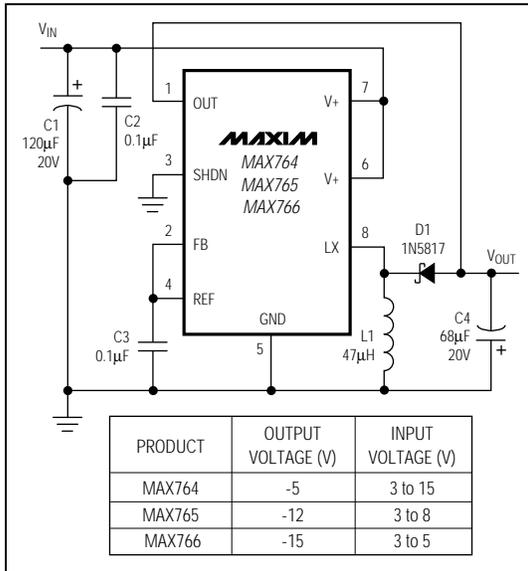

Figure 2. Fixed Output Voltage Operation
**Note 2:** Circuit of Figure 2.
CIRCUIT OF FIGURE 2, V+ = 5V, ILOAD = 100mA, VOUT = -5V
CIRCUIT OF FIGURE 2, V+ = 5V, VOUT = -5V
CIRCUIT OF FIGURE 2, VOUT = -5V, ILOAD = 100mA
CIRCUIT OF FIGURE 2, V+ = 5V, VOUT = -5V, ILOAD = 140mA
CIRCUIT OF FIGURE 2, V+ = 5V, VOUT = -5V, ILOAD = 80mA
CIRCUIT OF FIGURE 2, V+ = 5V, VOUT = -5V, ILOAD = 240mA